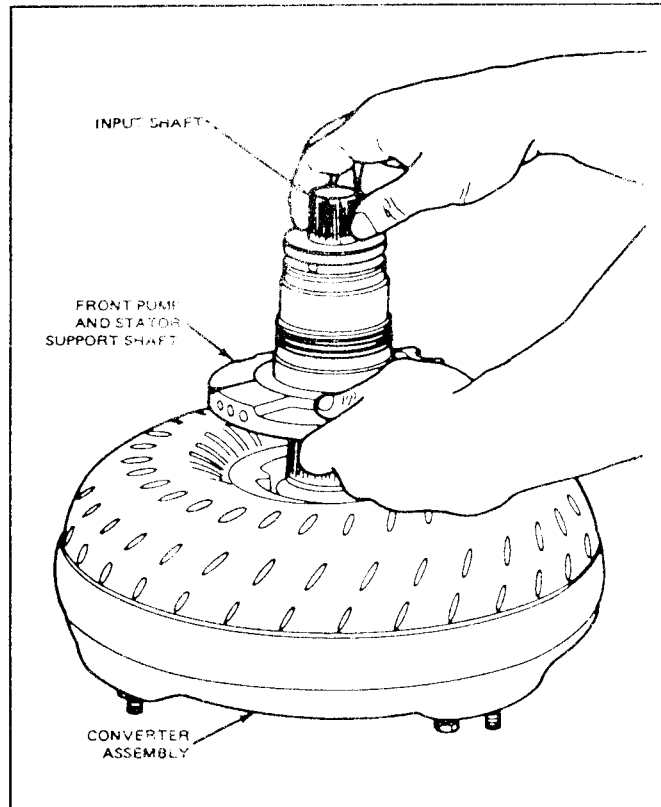

FIG. 37 Stator to Turbine Interference Check—C6 and AOD
3. Install the input shaft, engaging the splines with the turbine hub (Fig. 37).